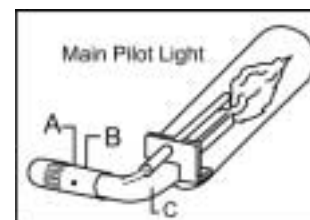

Fig. 6-3
- Periodically compare flame of main and pilot burners with figure 6-3 and main burner adjustments in HOW TO OPERATE YOUR WATER HEATER.